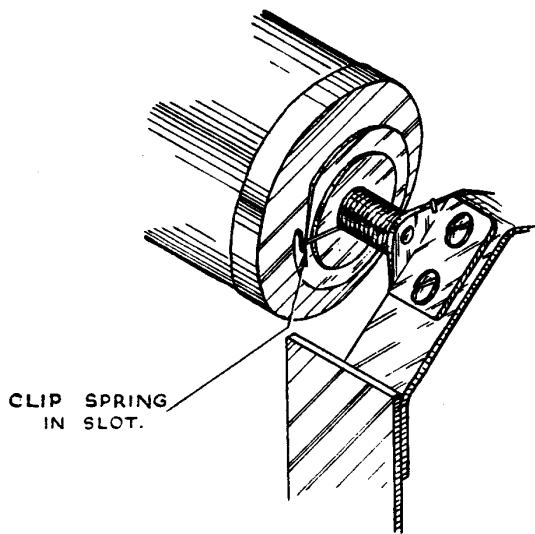

Fig. 5.
spring (5) from releasing suddenly. When replacing the scale, assemble the scale caps (6) so that the keys are inserted in the slots at each end of the scale. Assemble the spring and washer on bracket (7) and push the right-hand scale cap on the bracket. Fit the left-hand scale cap into bearing of left-hand bracket (8) and replace screws (2). Before the last operation, see that there is sufficient grease in the bearing. Take one turn in tension spring (5) and clip the spring into position. See Fig. 5. Make sure that the scale is able to rotate freely. Replace screw (3) to fix control cord to the Range Switch arm.